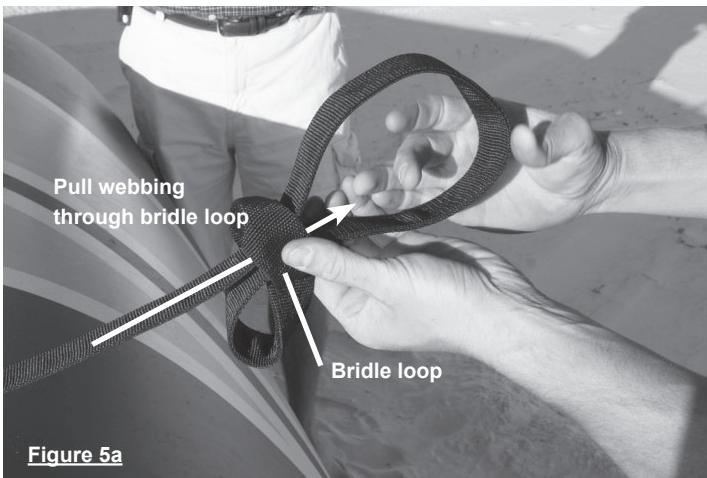

Figure 5a
6) **IMPORTANT:** Make sure to incorporate anchor bridle into frame as frame is assembled. Pull the anchor bridle webbing through the bridle loop to make a 'cinch loop' as shown in Fig. 5a - 5b. As frame is assembled, slide the anchor bridle onto the frame at every other corner as shown in Fig.6.